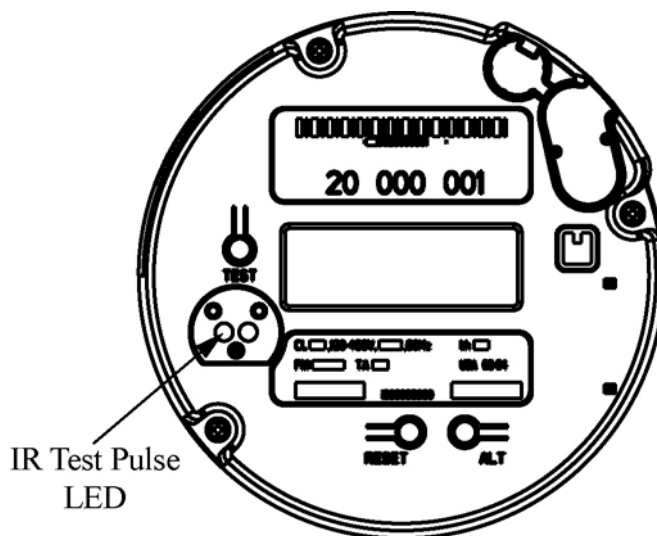

Figure 3-2: Location of the Infrared Test Pulse LED
The test pulse output is compatible with all ANSI-rated laboratory and field test equipment and is transmitted through the Infrared (IR) Test Pulse LED. When aligning the optical pick-up in front of the IR Test Pulse LED. Position the pick-up so that it is perpendicular to the IR Test Pulse LED. See Figure 3-2.